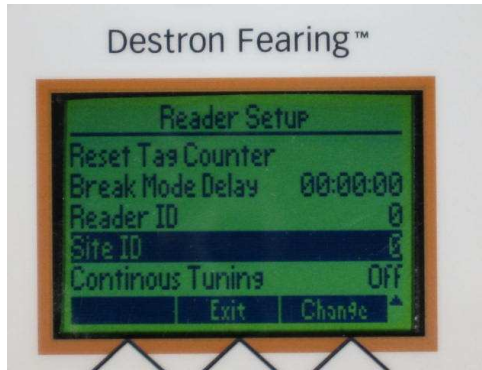
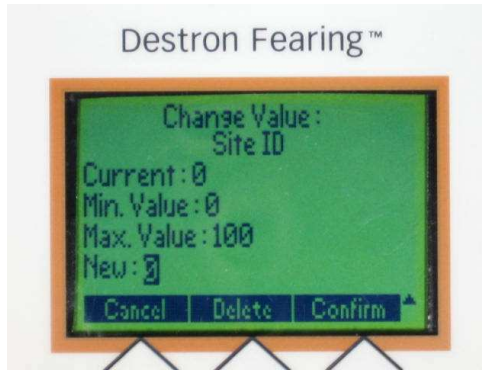

FIG. 75: Site ID Screen
FIG. 76: Change Value Screen
1. Press the UP/DOWN Arrow Keys on the Reader Setup Screen and highlight the "Site ID" line. See Fig. 75.
2. Press the CHANGE Key. See Fig. 75. The "Reader ID" Change Value Screen will appear. See Fig. 76.
3. Press the UP/DOWN Arrow Keys to change the delay time. See Fig. 76.
4. Press the CONFIRM Key to lock in the new settings. See Fig. 76.